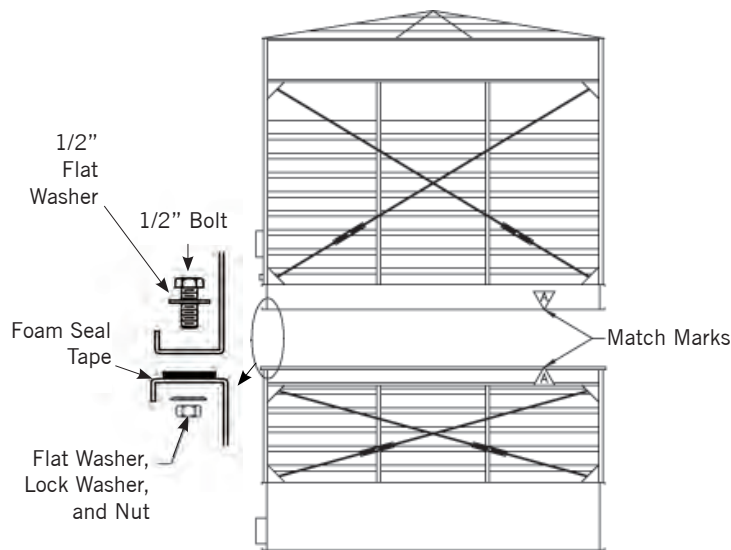

Figure 3. Upper and Lower Assembly for Series 3000 Cooling Towers
4. Install foam seal tape (BAC part # 270175) supplied with the unit, as illustrated in **Figure 3**, on the mating flanges of the lower section in a continuous line. At each corner, allow 1" overlap.
- Match marks must line up as shown in **Figure 3**.
3. Install foam seal tape (BAC part # 270175) supplied with the unit, as illustrated in **Figure 3**, on **page 5** on the mating flanges of the lower sections in a continuous line. At each corner, allow 1” overlap.
- Match marks must line up as shown in **Figure 3** on **page 5**.